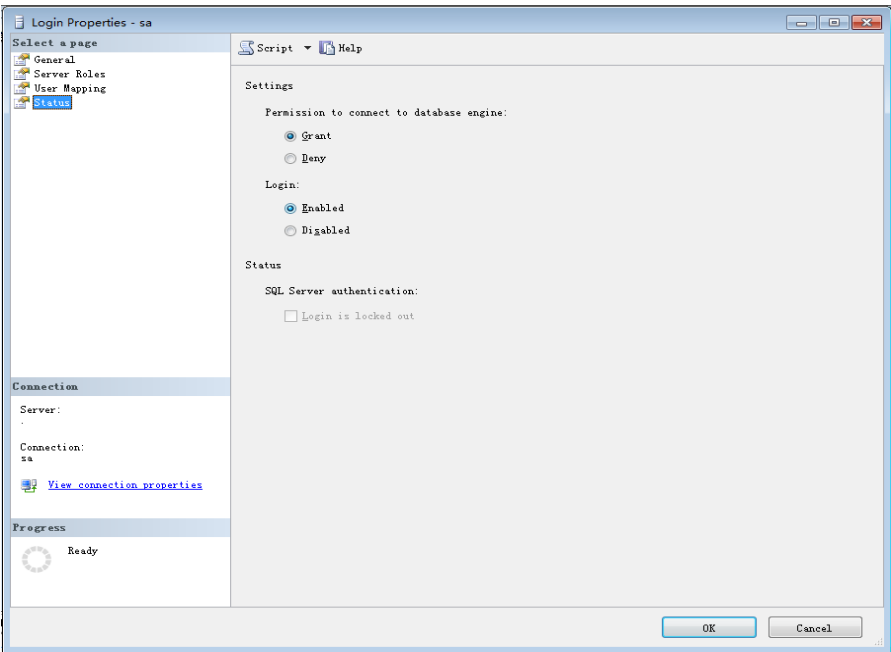

Fig.1.6 Login Properties
**Step Six:** Choose “Status” on the left, choose “Grant” and “Enabled” on the right and click “OK” button (see Fig.1.6).